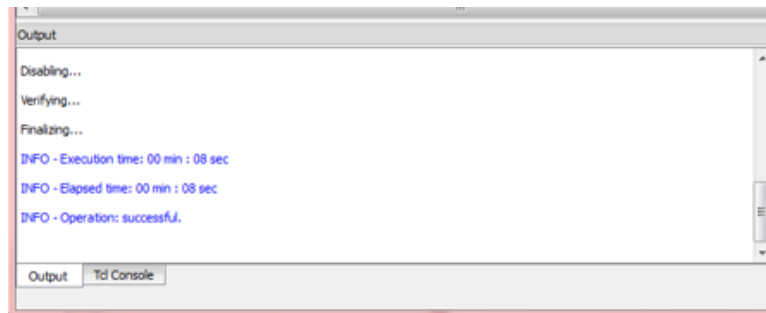

Figure B.5. Output Console
- After successful programming, the Output console displays the results as shown in Figure B.5
6. After successful programming, the Output console displays the results as shown in Figure B.5